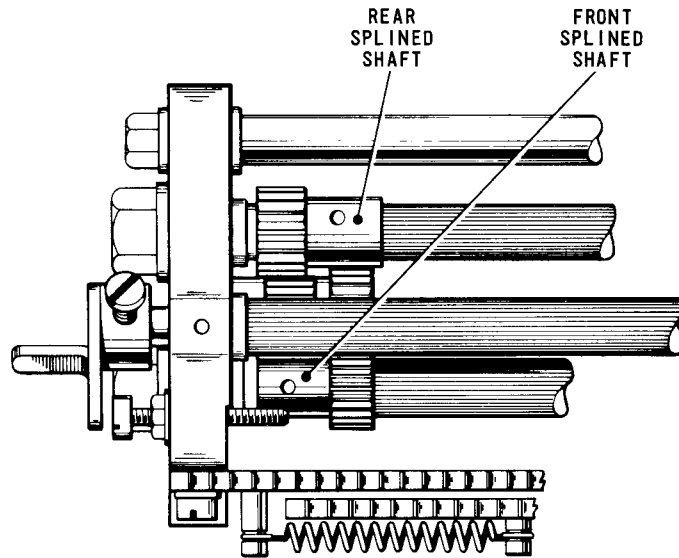

Fig. 4.51 TYPEHEAD CARRIAGE—PLAN VIEW
57.2 To adjust, slacken the nut securing the front splined shaft, Fig. 4.51, and turn the typehead clockwise or counter-clockwise until the backlash is equal in both directions. When this condition is satisfied, insert a tommy pin into the hole in the front splined shaft and, holding the shaft with the pin, tighten its securing nut.
- 59.2 If this is not so, slacken the nut securing the rear splined shaft, Fig.4.51, until friction tight, insert a tommy pin into the hole in the shaft and turn the shaft until the condition is satisfied. Hold the shaft with the tommy pin and tighten its securing nut.